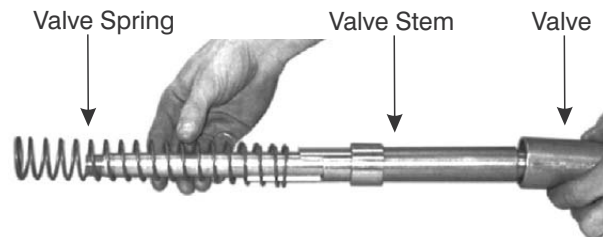

Figure 9-23. Slide Spring onto Valve Stem
10. After securing the Valve to one end of the Valve Stem, slide the Valve Spring (6) onto the other end of the Valve Stem. Refer to Figure 9-23.